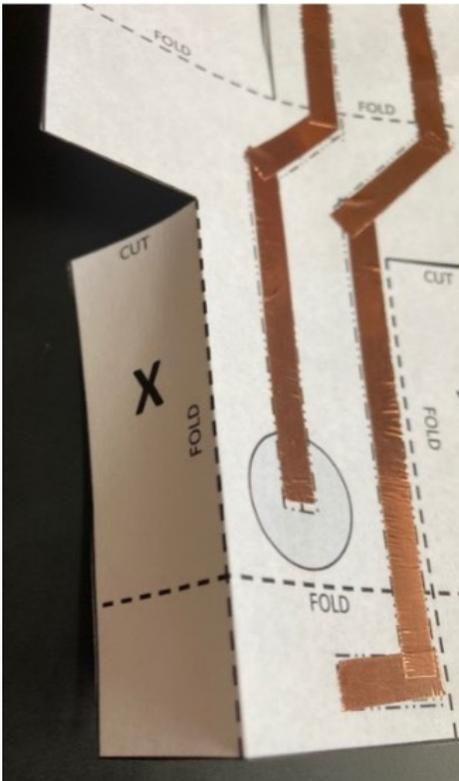

Figure 5. Fold flaps X and Y back.
5. Fold the flaps labelled X and Y towards the back as shown in *Figure 5*. The fold should be on the dashed lines. Run your finger down the fold to make sure the crease is tight.